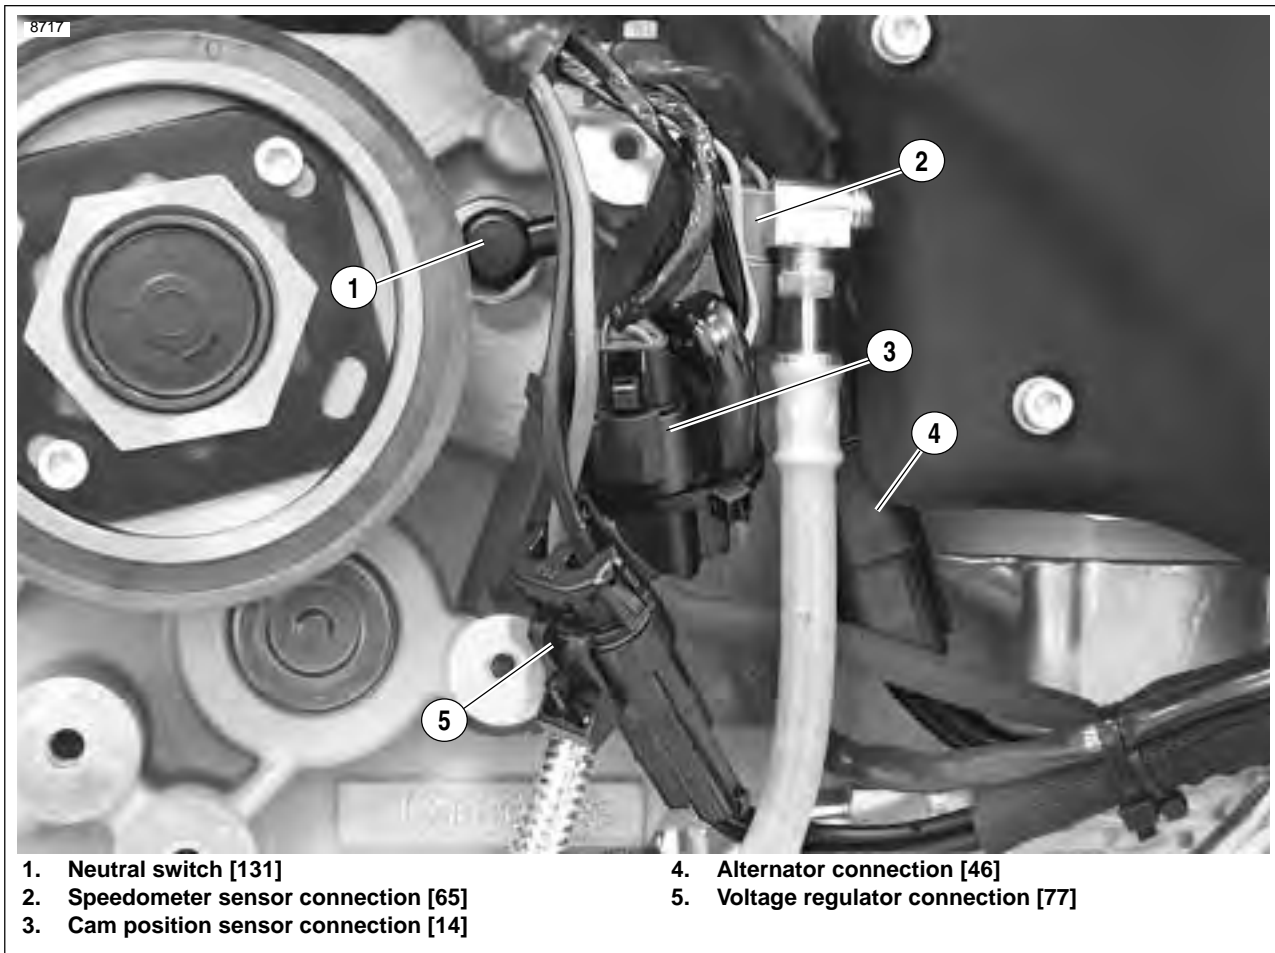

Figure 3-55. Electrical Connections
34. See Figure 3-55. Connect the following electrical components: